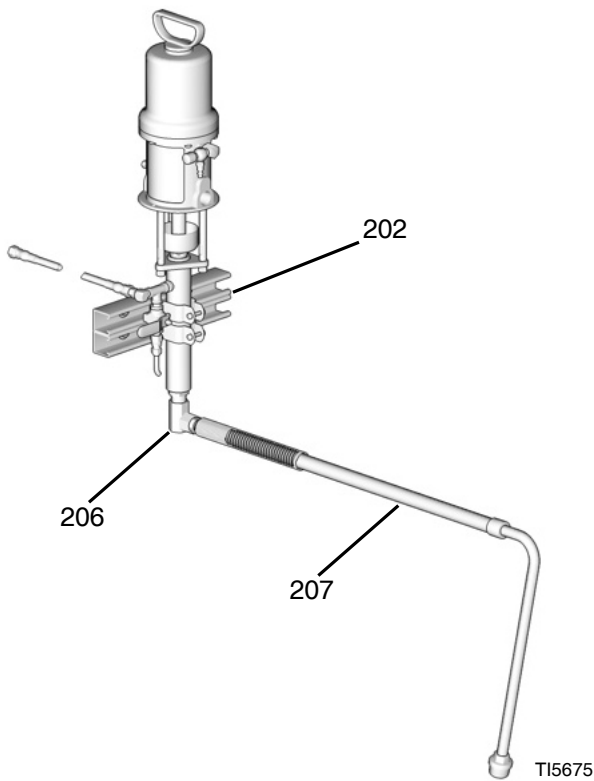

Fig. 1 Solvent Flush Kits
1. See FIG. 1. Install pump using mounting bracket (202) and hardware supplied. Mount bracket on wall, back of proportioner stand, or cart.